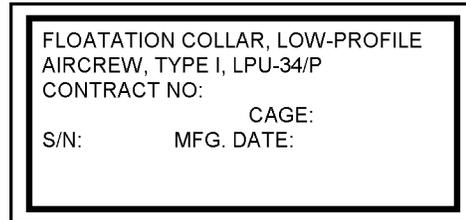

Figure 5-2. LPU-34/P Markings
1. Compare markings on preserver to those listed in figure 5-2.